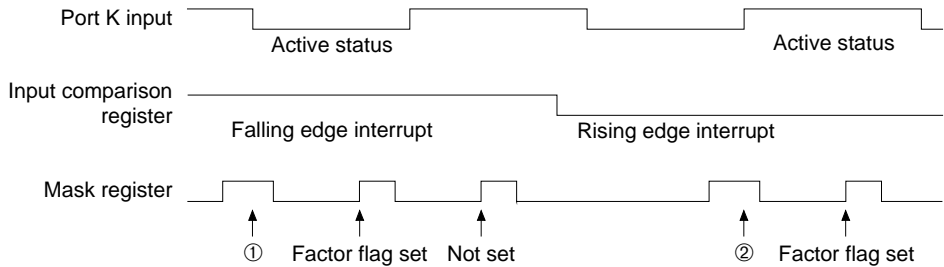

Fig. 4.4.6
When an interrupt is triggered at the falling edge of an input terminal, a factor flag is set with the timing of ① shown in Figure 4.4.6. However, when clearing the content of the mask register with the input terminal kept in the low status and then setting it, the factor flag of the input interrupt is again set at the timing that has been set.
When an interrupt is triggered at the rising edge of the input terminal, a factor flag will be set at the timing of ② shown in Figure 4.4.6. In this case, when the mask registers cleared, then set, you should set the mask register, when the input terminal is in the low status.